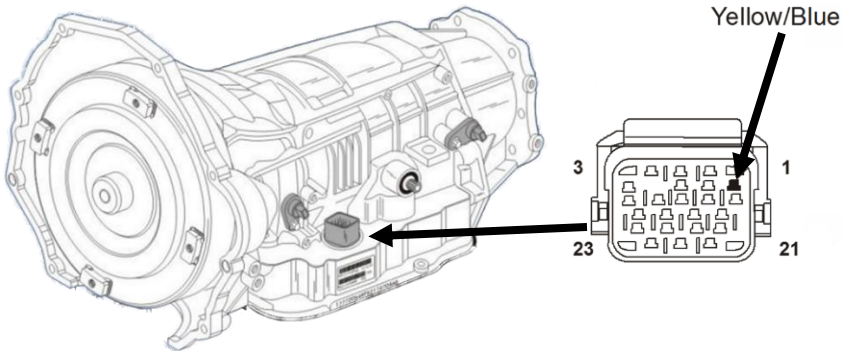

Figure 40– Park Signal Connector Location (68RFE)
- Locate the 23 pin connector as indicated by the arrow in the picture of the left side of the transmission (Figure 40). Solder and seal the long blue wire from the throttle control to the yellow wire with the dark blue stripe. Reconnect the connector to the transmission.